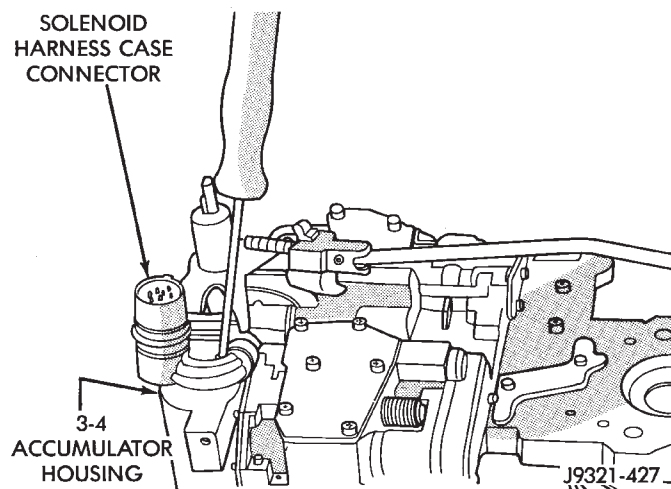

Fig. 66 Solenoid Harness Case Connector Shoulder Bolt
(7) Remove small shoulder bolt that secures solenoid harness case connector to 3-4 accumulator housing (Fig. 66). **Retain shoulder bolt. Either tape it to harness or thread it back into accumulator housing after connector removal.**